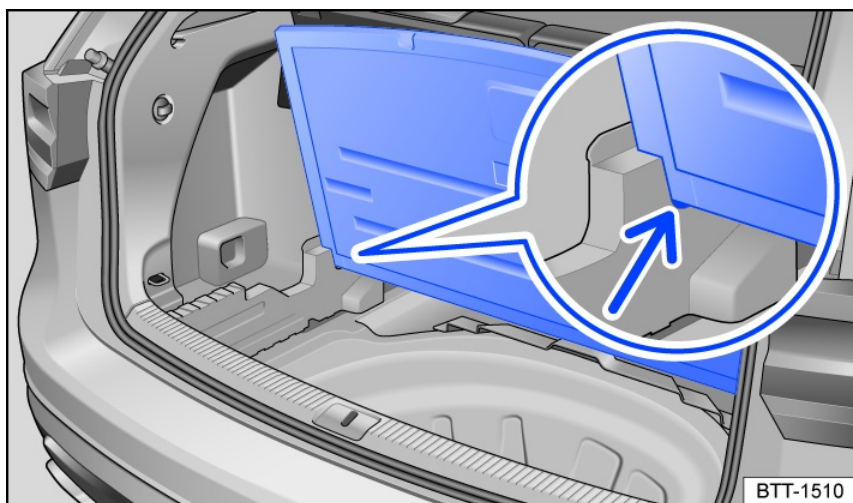

Fig. 162 In the luggage compartment: securing the luggage compartment floor in place.
3. To secure in place, guide the luggage compartment floor in the mounts fig. 162 (arrow) on the sides of the luggage compartment floor.